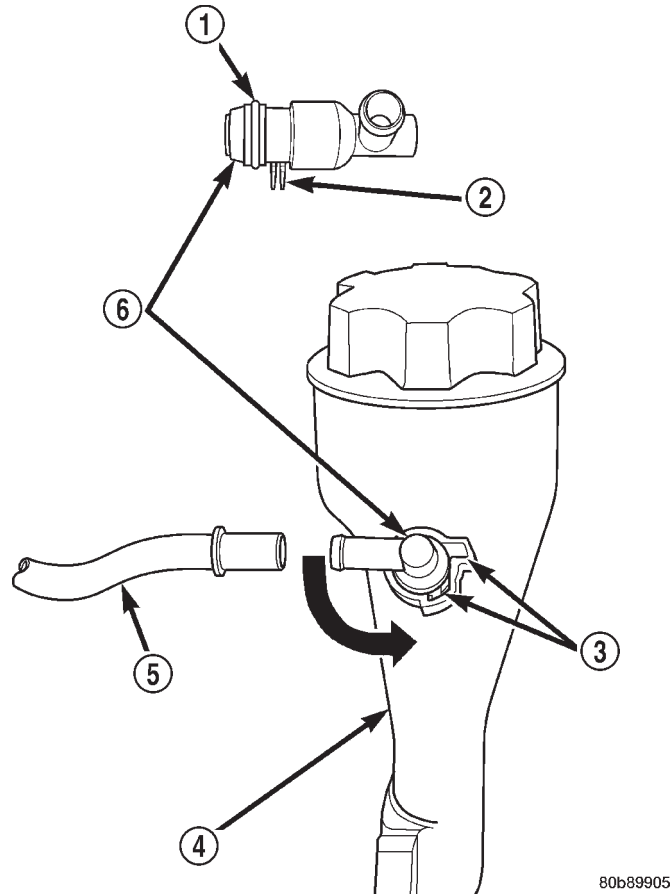
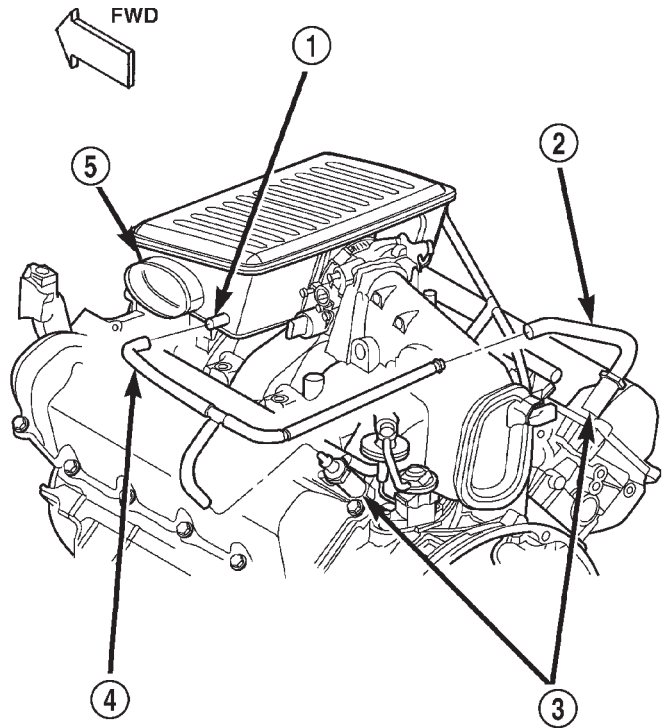

Fig. 18 PCV Valve/Oil Filler Tube—4.7L V-8 Engine
Fig. 19 PCV Breathers/Tubes/Hoses—4.7L V-8 Engine
(1) Disconnect PCV line/hose (Fig. 18) by disconnecting rubber connecting hose at PCV valve fitting.
(2) Remove PCV valve at oil filler tube by rotating PCV valve downward until locating tabs have been freed at cam lock (Fig. 18). After tabs have cleared, pull valve straight out from filler tube. **To prevent damage to PCV valve locating tabs, valve must be pointed downward for removal. Do not force valve from oil filler tube.**
(3) After valve is removed, check condition of valve o-ring (Fig. 18). Also, PCV valve should rattle when shaken.
(4) Reconnect PCV valve to its connecting line/hose.
(5) Start engine and bring to idle speed.
(6) If valve is not plugged, a hissing noise will be heard as air passes through valve. Also, a strong vacuum should be felt with a finger placed at valve inlet.
(7) If vacuum is not felt at valve inlet, check line/hose for kinks or for obstruction. If necessary, clean out intake manifold fitting at rear of manifold. Do this by turning a 1/4 inch drill (by hand) through the fitting to dislodge any solid particles. Blow out the fitting with shop air. If necessary, use a smaller drill to avoid removing any metal from the fitting.
(9) Return PCV valve back to oil filler tube by placing valve locating tabs (Fig. 18) into cam lock. Press PCV valve in and rotate valve upward. A slight click will be felt when tabs have engaged cam lock. Valve should be pointed towards rear of vehicle.
(10) Connect PCV line/hose and connecting rubber hose to PCV valve.
(11) Disconnect rubber hose from fresh air fitting at left side of air cleaner resonator box (Fig. 19). Start engine and bring to idle speed. Hold a piece of stiff paper (such as a parts tag) loosely over the opening of the disconnected rubber hose.
(12) The paper should be drawn against the hose opening with noticeable force. This will be after allowing approximately one minute for crankcase pressure to reduce.
(13) If vacuum is not present, disconnect each PCV system hose at top of each breather (Fig. 19). Check for obstructions or restrictions.
(14) If vacuum is still not present, remove each PCV system breather (Fig. 19) from each cylinder head. Check for obstructions or restrictions. If